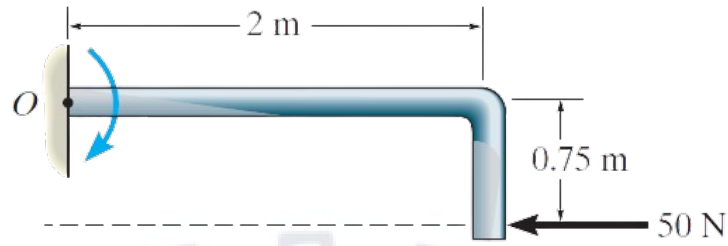

Figure 2
3. Find the resultant moment at a point O shown in Figure 2.